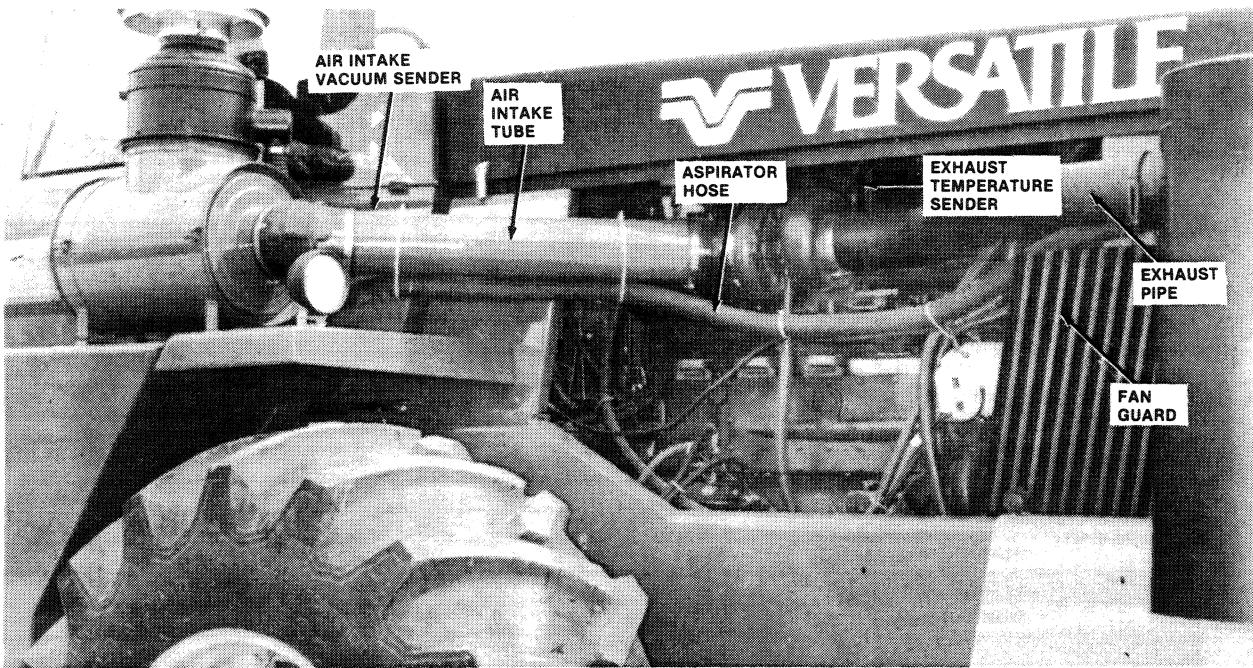

FIGURE 2-1: Tractor Right Side
- Remove exhaust temperature and air intake vacuum sender connectors from engine harness (Figure 2-1).